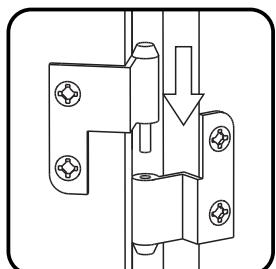

Figure 8
Attach Doors (Q) and (R) by sliding door hinges into side panel and middle panel hinges. (See Figure 8)